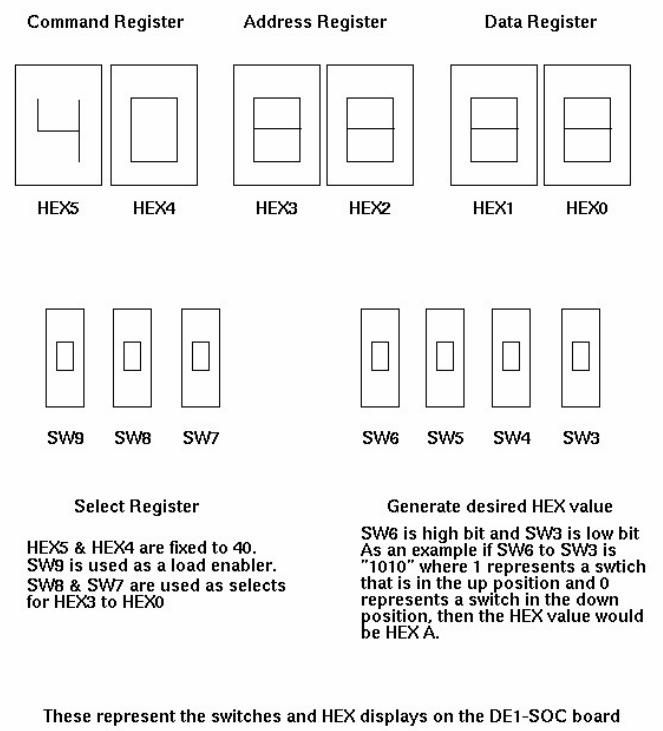

Figure 15 –Truth table for HEX decoder
3. We will use 3 switches to select and enable the location where the HEX value will go. See **Figure 15** and **Table 5** for further explanation.